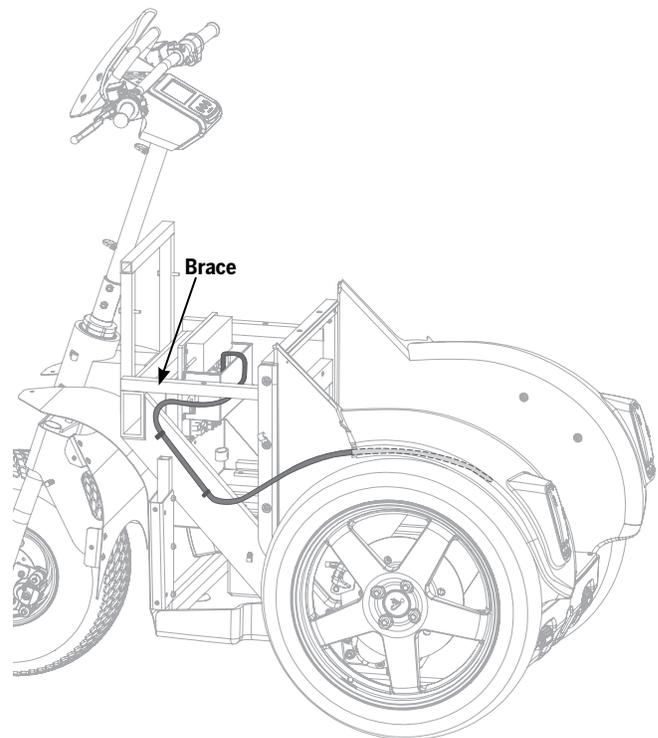

Figure 173: Tail Light Harness Routing
7. Route the harness under the horizontal brace on the frame. See **Figure 173**.